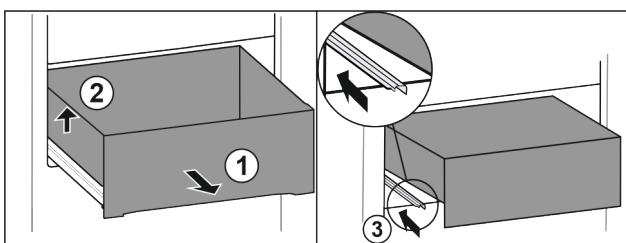

Fig. 89
- ▶ Pull out drawer as far as it will go. Fig. 89 (1)
- ▶ Lift drawer on the left. Fig. 89 (2)
- ▶ Insert left rail. Fig. 89 (3)